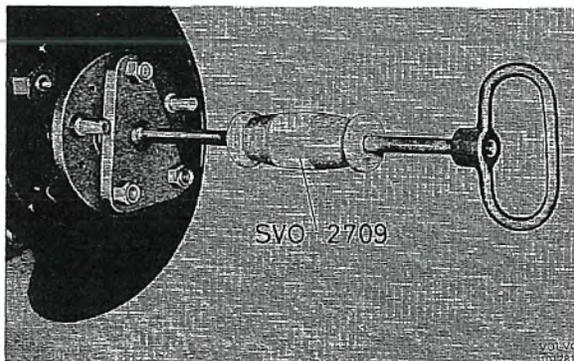

Fig. 4-127. Removing drive shaft
3. Slacken the bolts for the thrust washer. These are slackened through the holes in the drive shaft flange. Pull out the drive shaft with puller 2709, see Fig. 4-127.
2. Slacken the bolts for the brake backing plates and brake shoe retainer. They are slackened through the holes in the drive shaft flanges. Pull out the drive shafts with puller 2709, see Fig. 4-127.